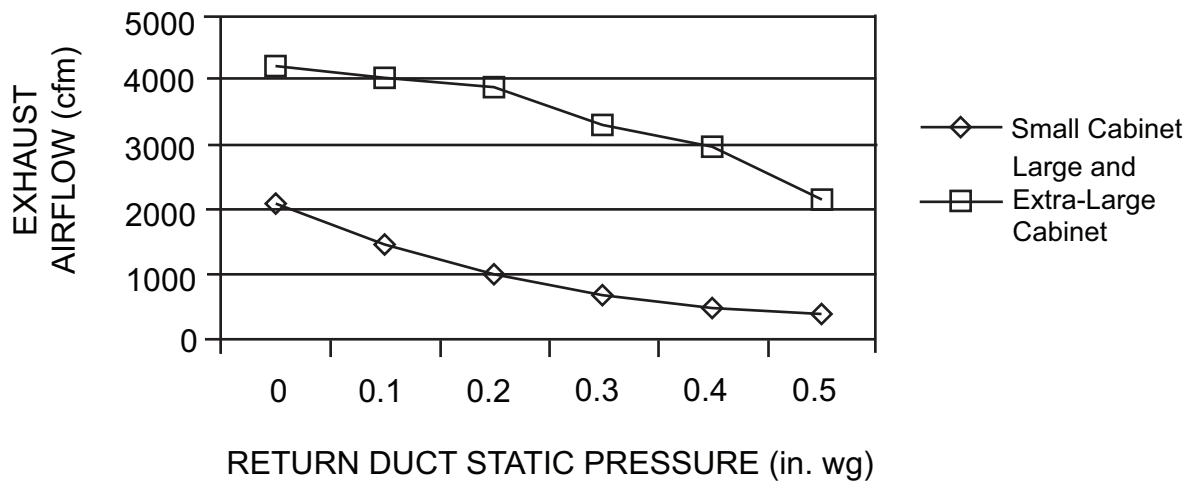

Fig. 13 — Power Exhaust Performance
8. Test power exhaust operation by setting the power exhaust set point on the economizer controller to 0%. Power exhaust performance is shown in Fig. 13.